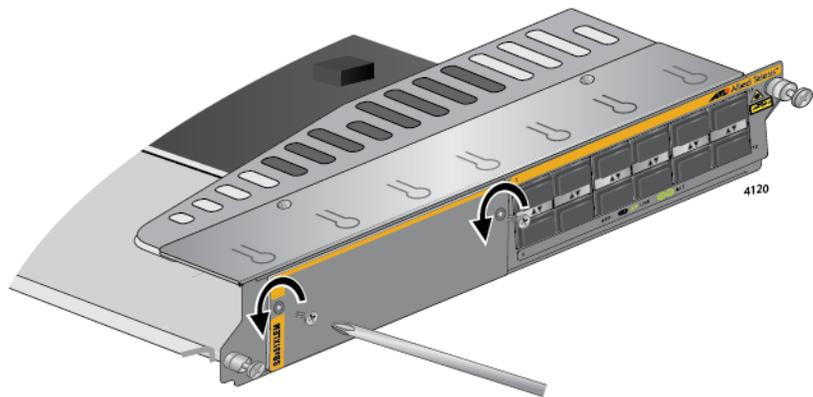

Figure 74. Removing the Screws on the Blank Slot Cover on the AT-SBx81XLEM Line Card
4. With a #2 Phillips-head screwdriver, remove the two screws that secure the blank slot cover to the card. Refer to Figure 74.